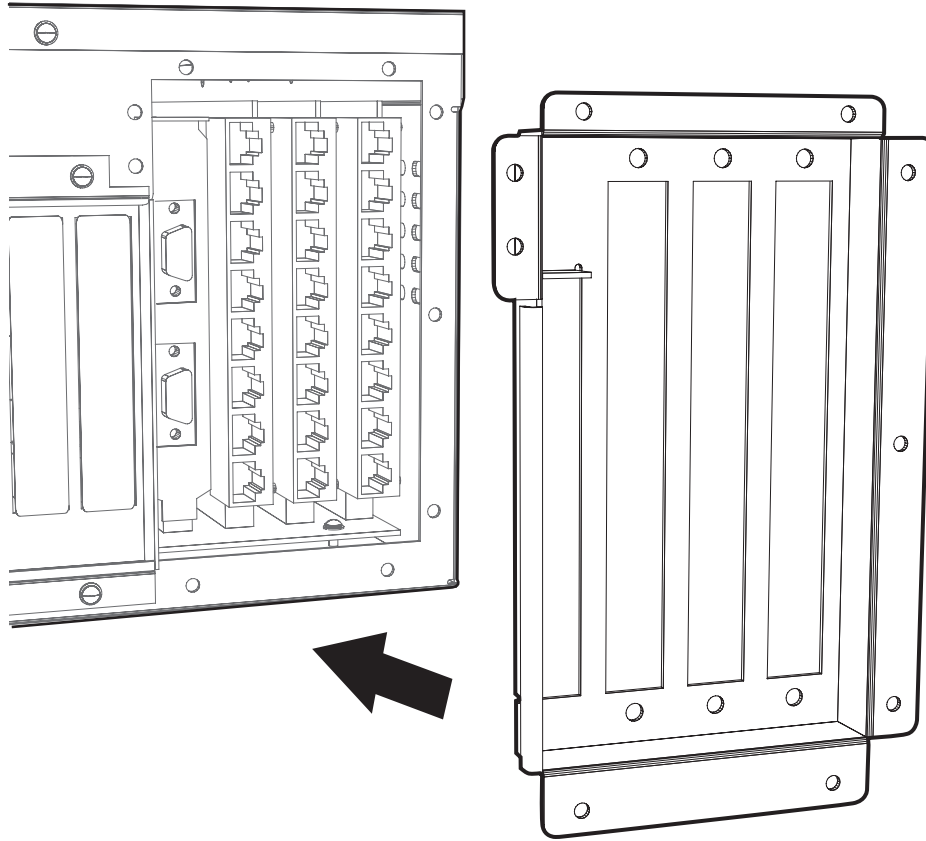

Figure 7. CM9700-ADP-120 Adapter Plate Installation
5. Install the CM9700-ADP-120 adapter plate. Carefully align the plate with the front of the three Sercom cards and the RP card in PCI slot 1 while pushing in toward the CC1 chassis. Secure with mounting plate screws removed earlier. Refer to Figure 7.